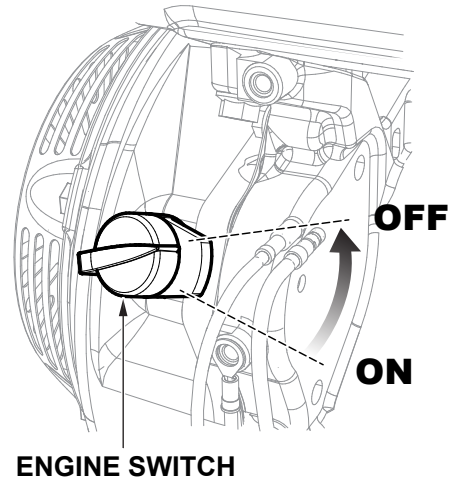

Figure 53. Engine ON/OFF Switch (OFF)
3. Release the handle and place the engine ON/OFF switch in the **OFF** position (Figure 53).
Float discs, or pans (Figure 53), attach to the spider assembly and allow the trowel to “float” on wet concrete. The disc design allows early floating and easy movement from wet to dry areas. Float discs are also very effective for embedding large aggregates and surface hardeners.